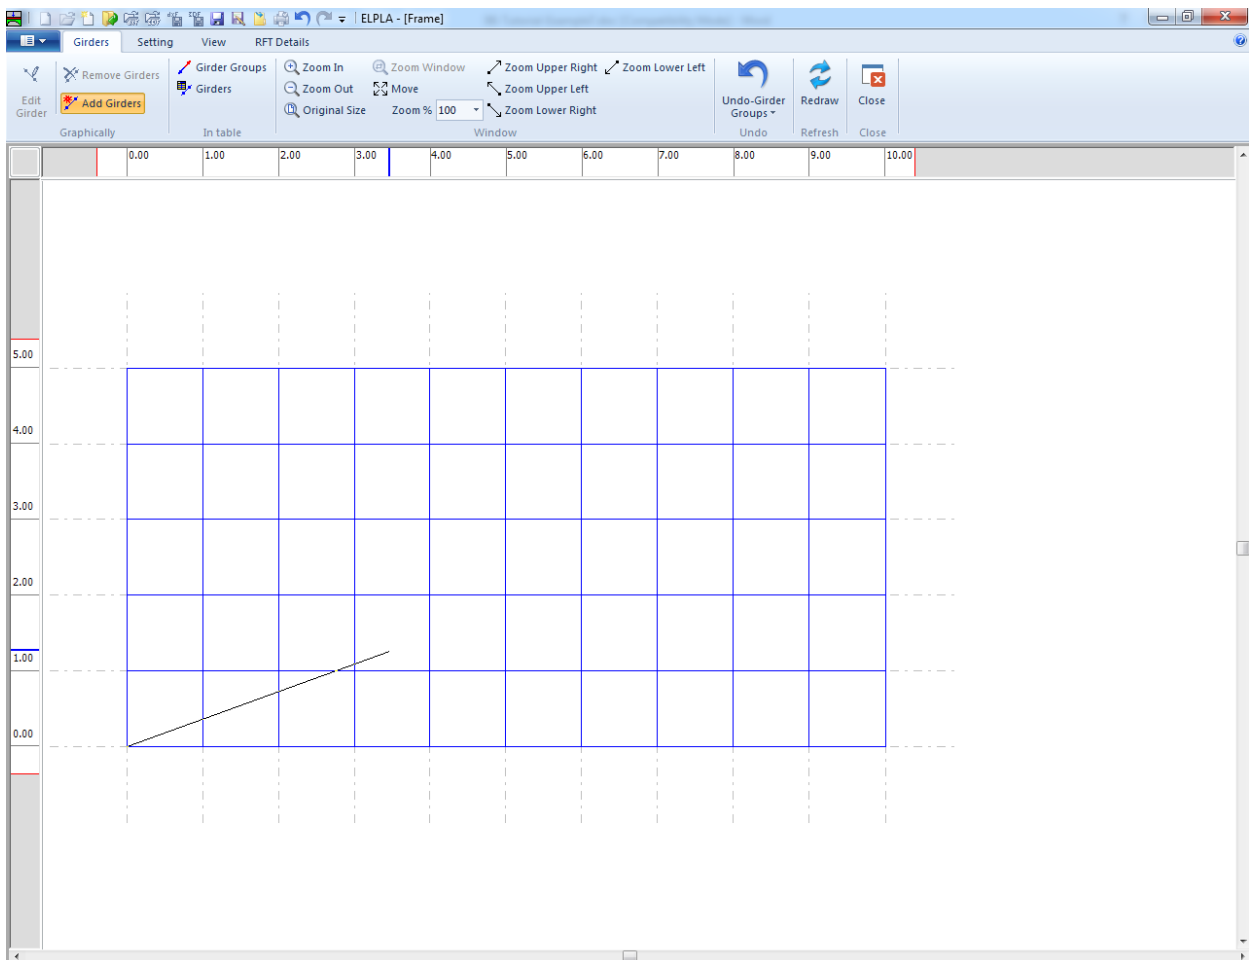
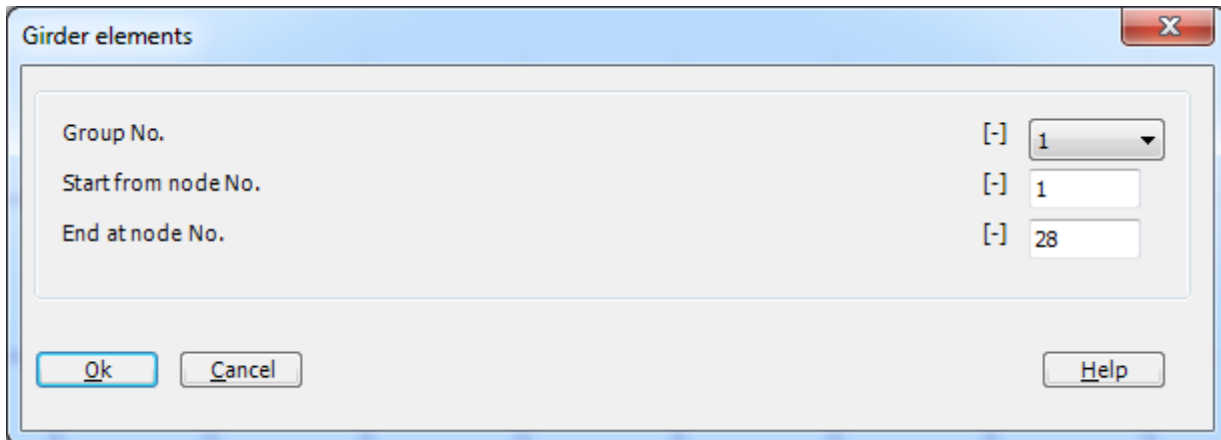

Figure 7.14 Add girder by mouse
Figure 7.15 "Girder elements" dialog box
- Choose "Add Girders" command from "Graphically" menu in Figure 7.14. When "Add Girders" command is chosen, the cursor will change from an arrow to a cross hair
- Click the left mouse button on the start node of the first girder and drag the mouse until the end node of that girder (Figure 7.14). Then, click on the end node. The "Girder elements" dialog box in Figure 7.15 appears